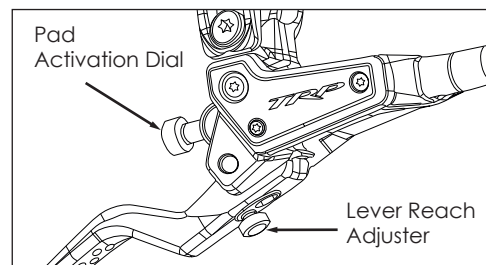

Fig 3
- Once you have the lever assembly positioned appropriately, you can adjust the Pad Activation Dial (PAD) and the reach of the blade to suit your preference. (Fig.3)
EVO Pro is designed with a Pad Activation Dial (PAD), which can quickly and easily adjust the feel of your brakes. It is also a way to balance the front & rear brake levers to feel exactly the same. (Fig.3)